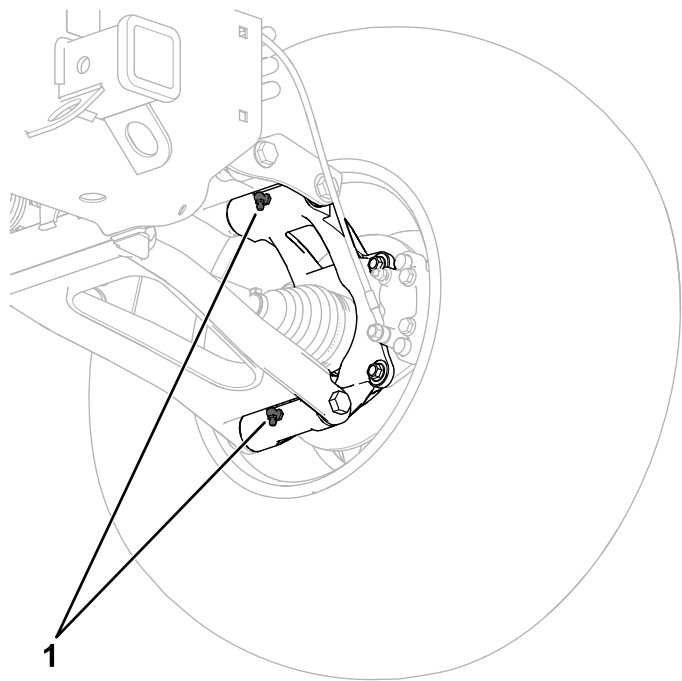

Figure 95
- **Rear knuckle pivots (4)**; refer to Figure 95